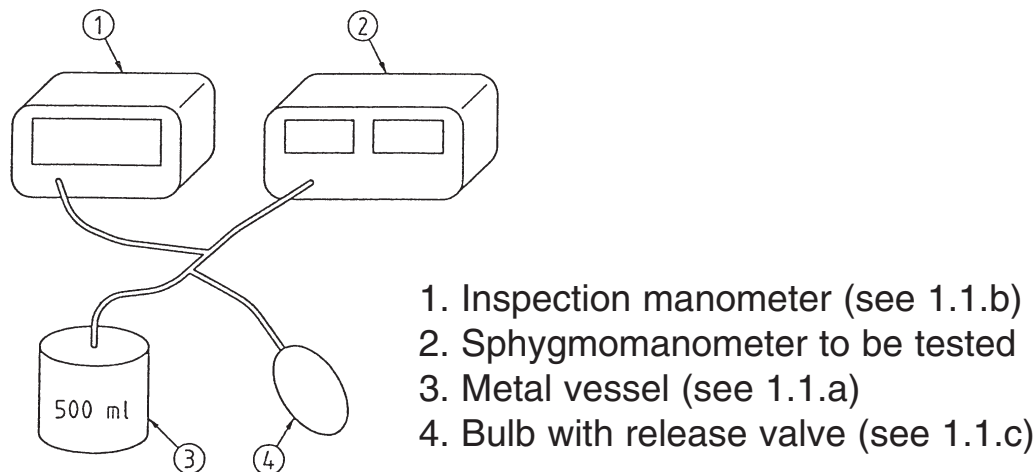

Fig. 1: Test device for determination of limits of error of the measurement display for cuff pressures.
1.1 b) to the cuff connector (see Fig. 1) using a "T" connector and tubes (see 1.1. d). Using an additional "T", connect the additional bulb (see 1.1.c) to the pneumatic system.